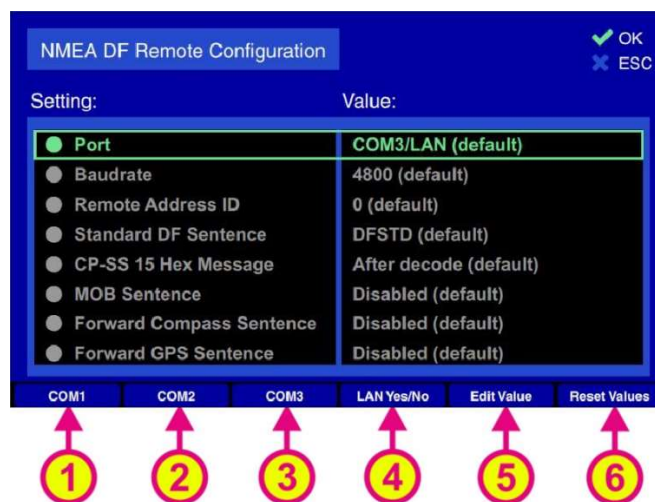

Figure 144. NMEA DF remote control configuration
Additionally, by choosing the combination “COMx¹ / LAN”, the NMEA sentences will be also sent via the LAN connection (s. Figure 144, position 3).
Following sub-menu will appear (s. Figure 144).
Pressing the hotkey “Reset Values” (s. Figure 144, position 6) will set all menu items to default values. To exit the dialog confirming all changes that have been made within the sub-dialogs for single settings, press “OK”.
- For changing the communication port, press either the hotkey “COMx” (s. Figure 144, positions 1, 2 and 3) or the hotkey “Edit Value” while the menu item “Port” is marked (s. Figure 144, position 5).
- Pressing the hotkey “LAN Yes/No” (s. Figure 144, position 4) will turn on the additional communication over LAN (pressing this hotkey again will turn the LAN communication off, see also 7.4.4.3).
This setting will only set the corresponding communication port. Additional transmitting the NMEA sentences over LAN should be set in the top level menu (s. Figure 144, position 4).
- To change the baud rate, press the hotkey “Edit Value” while the menu item “Baudrate” is marked (s. Figure 144). The corresponding sub-dialog will be opened (s. Figure 146).